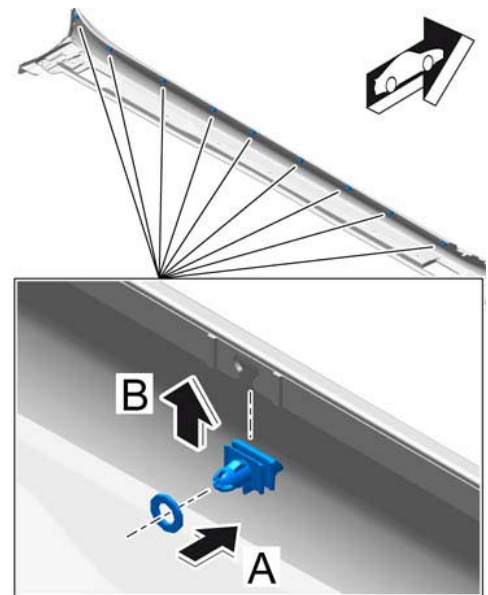

Figure 40
7.3.1 Install new clip in the sill cover (⇒ *Figure 40*).